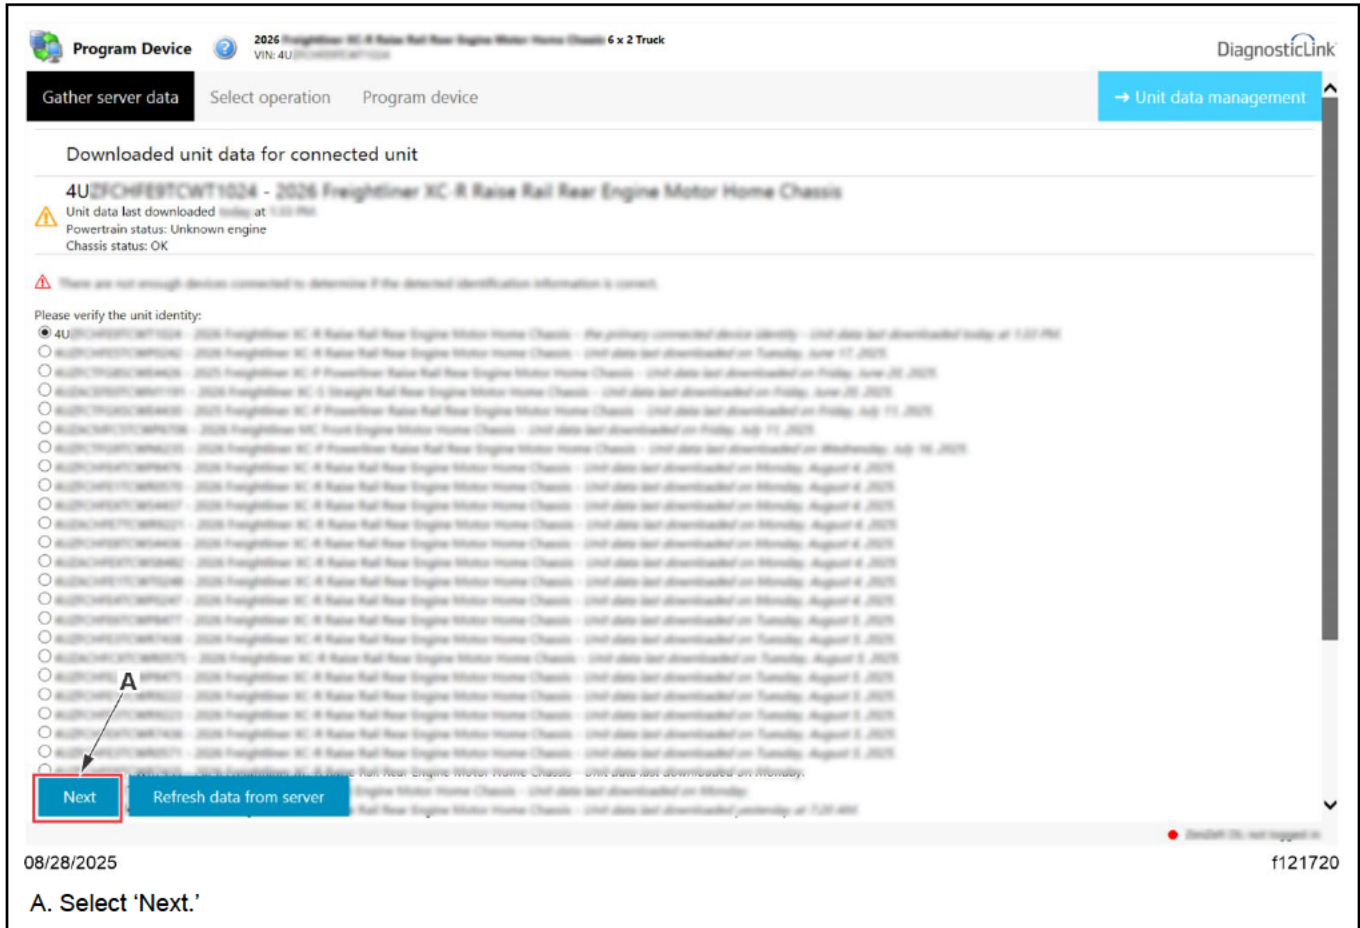

Fig. 2, Data Downloaded from the Server
10. Once the data is downloaded from the server, select 'Next.' See Fig. 2.